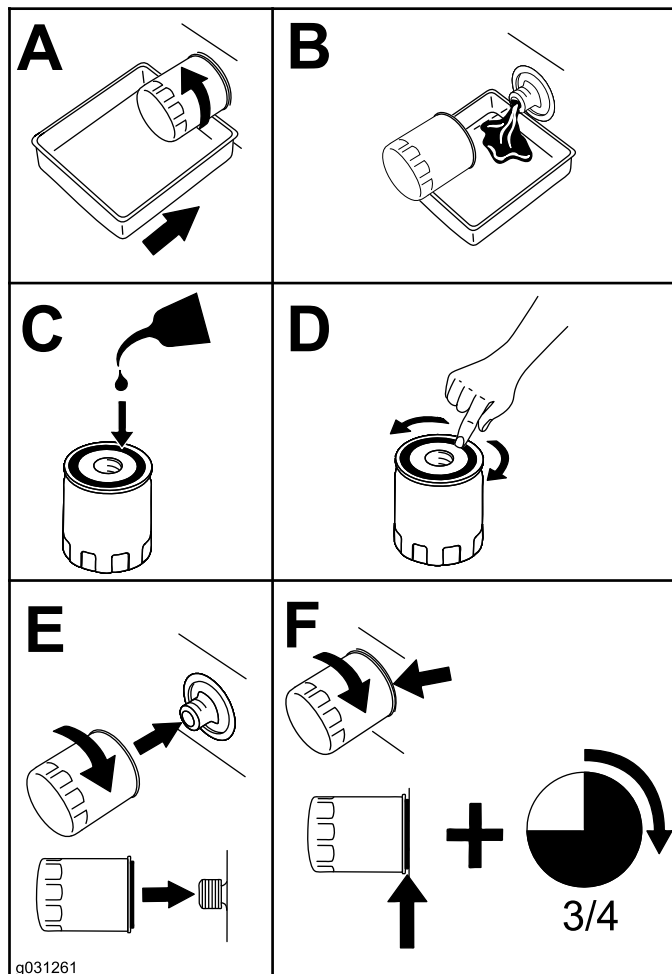

Figure 92
4. Change the engine-oil filter (Figure 92).